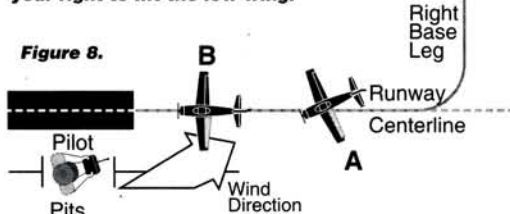

Figure 8.
• If the plane's left wing starts to drop, you'll have to momentarily *move the sticks to your right* to lift the low wing (see Figure 8, plane A).
When cross-controlling for the left crosswind (left wing a little low), the sticks are pushed toward each other (*aileron stick goes to your left and rudder stick goes to your right*). To align the fuselage so that it's parallel to the runway centerline, add right rudder—*move the rudder stick to your right* (see Figure 8, plane B). Too much right rudder will yaw the plane's nose to the outside of the centerline, and too little will make the plane head toward the pits.